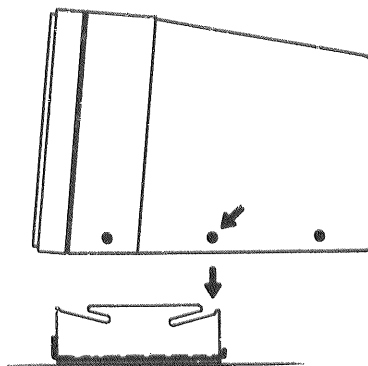

FIGURE 2-7. Display Unit Installation Step 1
- b. Position display unit over tilt/swivel bracket as shown in Figure 2-7. Align screw position over bracket channel as depicted in illustration.